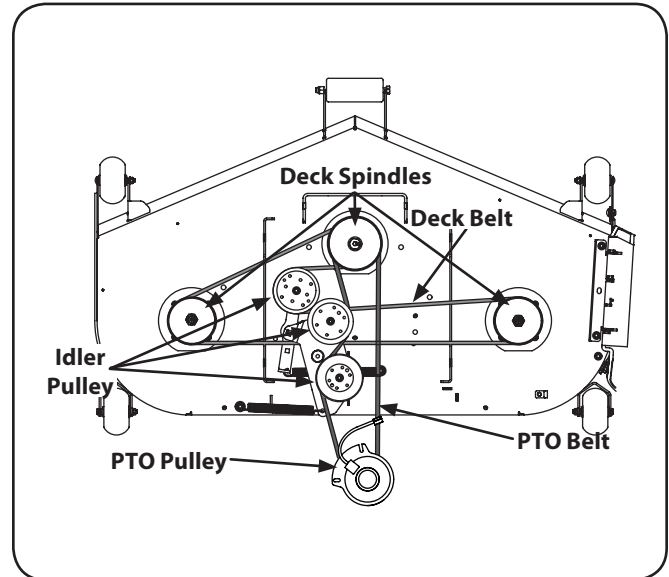
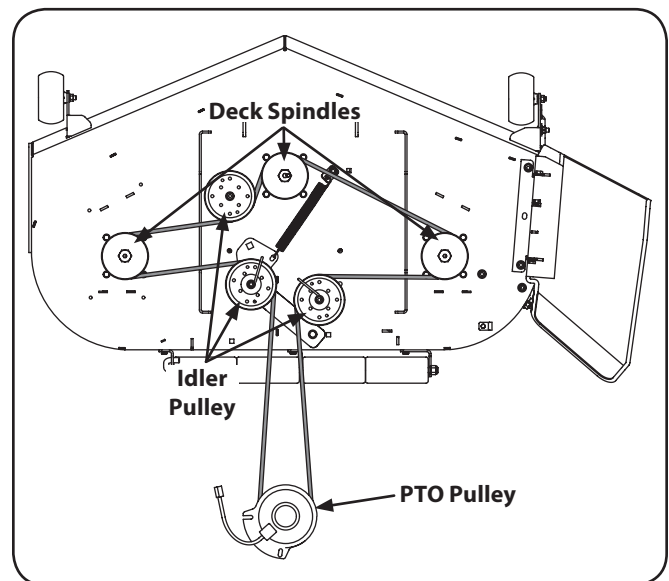

Figure 7-9
Figure 7-10
6. Route the belt as shown in Figure 7-9 for Z-Force S60 and Figure 7-10 for the Z-Force S48. After routing the belt around the PTO pulley, use a ½" drive in the idler pulley bracket and turn towards the front of the tractor to finish routing the belt around the idler pulley.
3. Remove the belt from the deck spindles. Refer to Figure 7-9 for Z-Force S60 and Figure 7-10 for the Z-Force S48.
4. Install the new belt around the spindle pulleys as shown in Figure 7-9 for Z-Force S60 and Figure 7-10 for the Z-Force S48 and reinstall the belt covers.